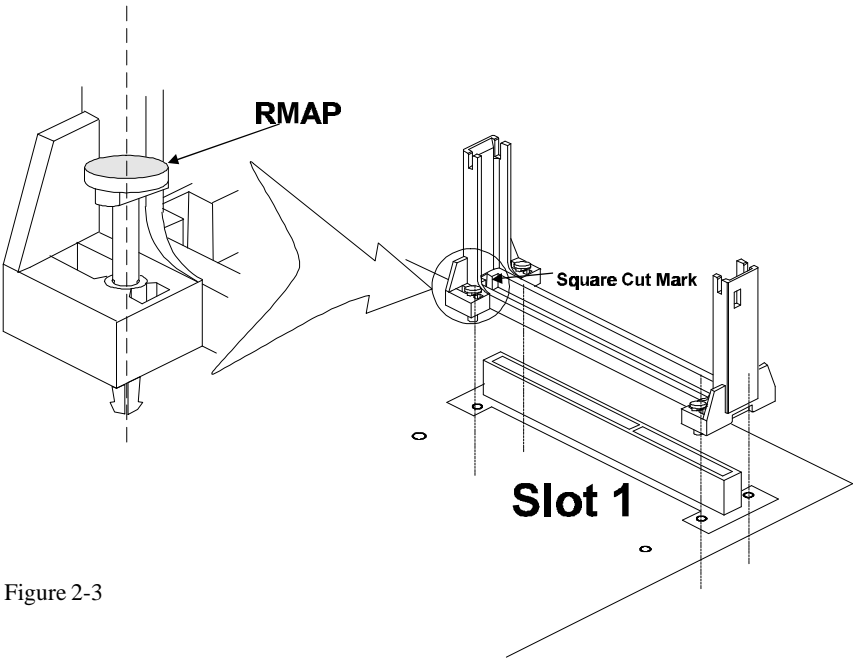

Figure 2-3
2. Insert the Retention Mechanism (RM) around the Slot 1. Be sure the Square Cut Mark of RM have the same orientation of Slot 1 pin 1. (Refer to Figure 2-3)
3. Insert four RM Attach Pin through the RM to secure it to the mainboard (four required per Assembly). (Refer to Figure 2-3)